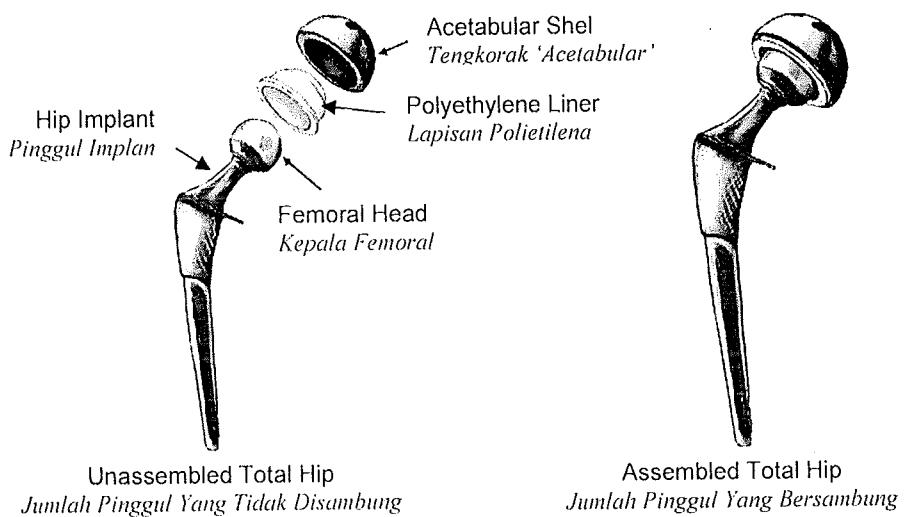

Figure 1 - Total Hip Replacement
- (ii) Figure 1 shows the total hip replacement which consist of metal for the femoral stem, metal or ceramic for the femoral head and the cup made of Ultra High Density Polyethylene (UHMWPE). Discuss why UHMWPE is suitable to be used in this application